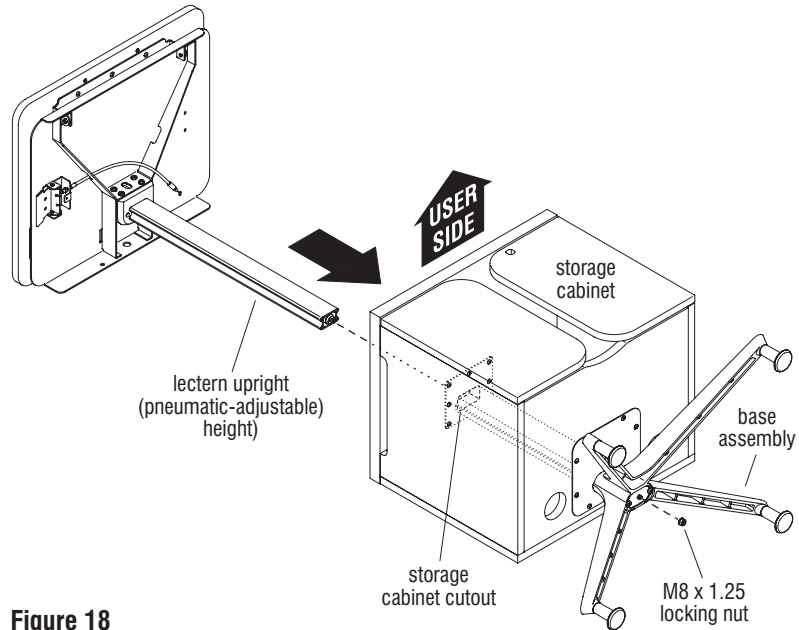

Figure 18
15. Carefully place the base assembly with storage cabinet onto it's back, non-user side, on a soft, protective surface (Figure 18).
16. Position the previously removed lectern upright to be in line with the storage cabinet cutout as illustrated. Lift the cabinet if necessary, insert the upright into the cutout and carefully slide it in until the upright reaches the bottom of the base assembly. Next, guide the cylinder threaded stem end through the hole at the bottom of the base assembly. Twist on and tighten the previously removed M8 x 1.25 locking nut to secure (Figure 18 & Detail Y).